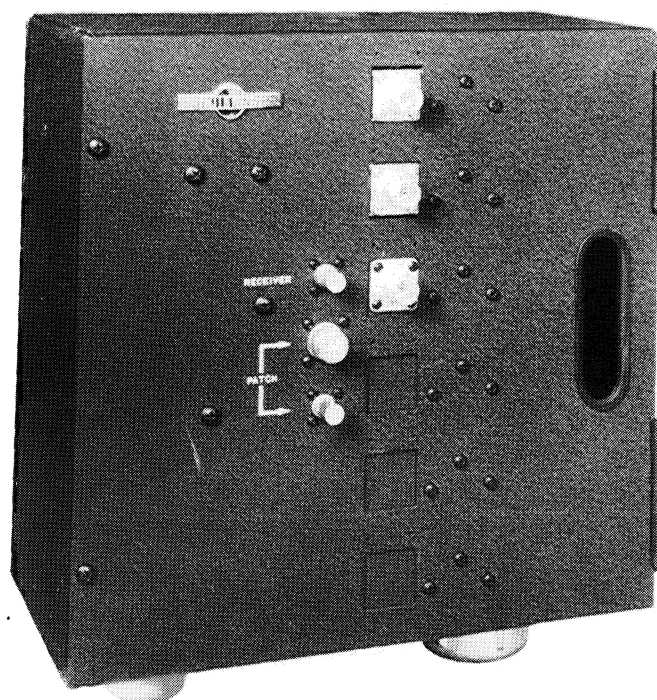

Figure 1-3. 68Y-1 Antenna Selector Unit
1.5.2 68Y-1 ANTENNA SELECTOR UNIT (figure 1-3).